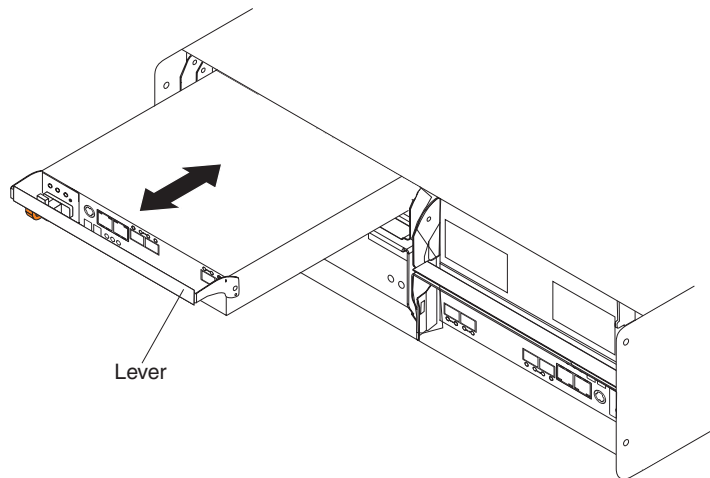

Figure 15. Removing and replacing a controller
2. Slowly pull the lever away from the chassis to remove the controller from the bay, as shown in Figure 15 on page 36.